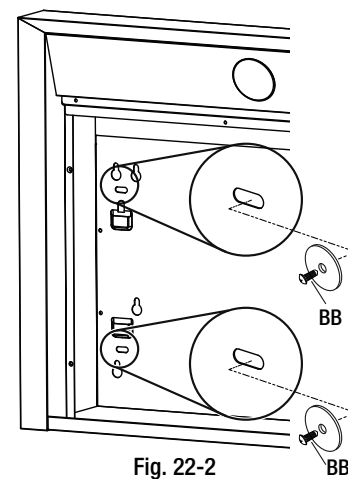

Fig. 22-2
- Framed cabinet installation requires four short tapping screws (BB) with washers. Use the two slots on each side to secure the range hood directly to the metal bracket shown in figure 22-2.